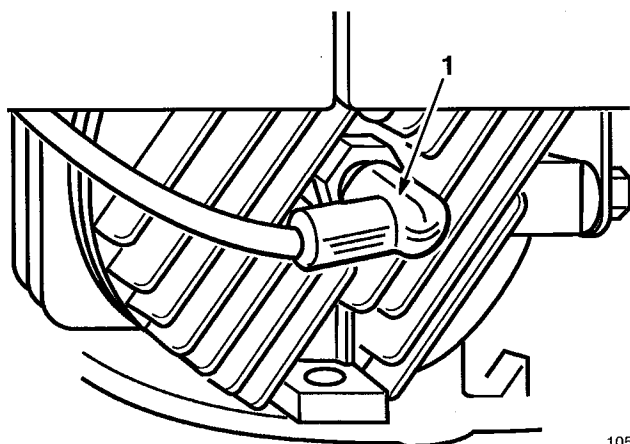

Figure 23
3. Install spark plug by hand, then torque to 180 in.-lbs. (15 ft.-lbs.) (20 N·m) (Fig. 23).
4. Reconnect spark plug wire when maintenance is completed (Fig. 23).
1. Disconnect spark plug wire (Fig. 23).
- Connect spark plug wire when maintenance is completed (Fig. 23).